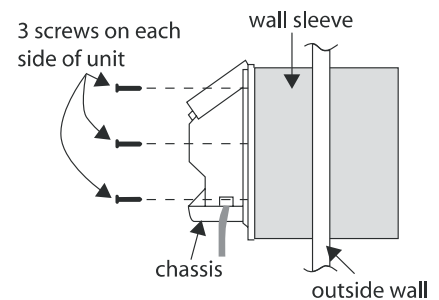

Figure 16. Secure chassis to wall sleeve
5. Secure the chassis to the wall sleeve using three screws on each side of the chassis to ensure a proper seal between the chassis and the wall sleeve. The screws are supplied in a plastic bag which is attached to the power cord. See Figure 16.